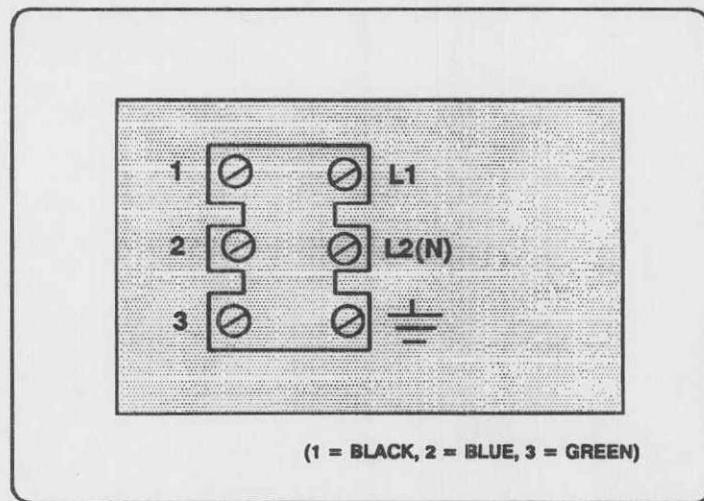

Figure 3-32. Terminal block.
e. Loosen the screws in the terminal block (fig 3-32) and remove the electrical power cable.